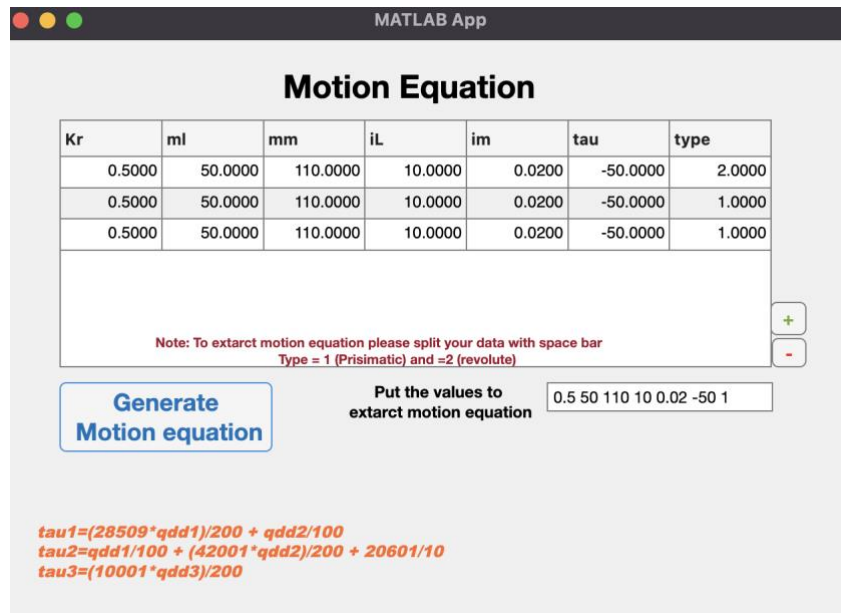

Figure 8
**Step 5.** After you click on 'Generate Motion equation', you will get the results of torque, as shown in Figure 8.